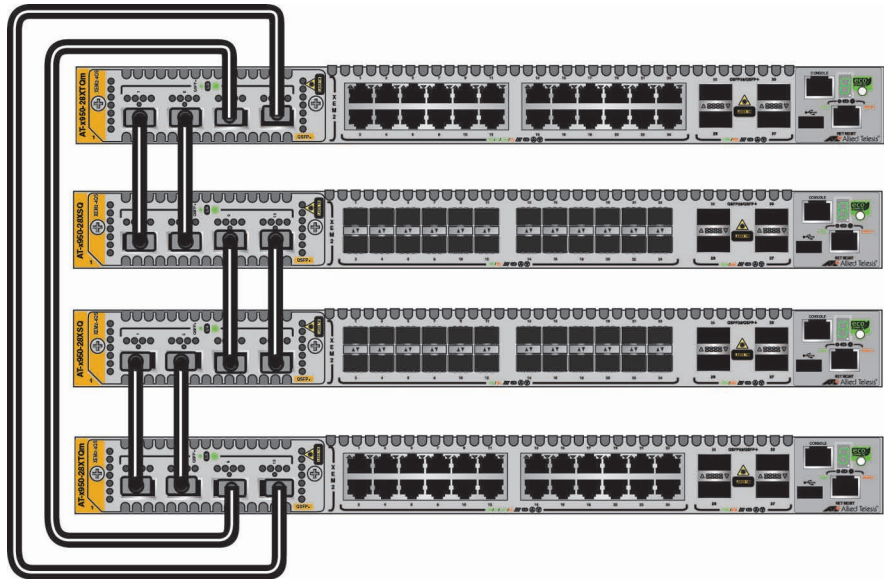

Figure 40. Example Trunk Using XEM2-4QS Line Cards
- Figure 40 on page 91 is an example of a stack of four switches with a trunk of ports on XEM2-4QS Line Cards.